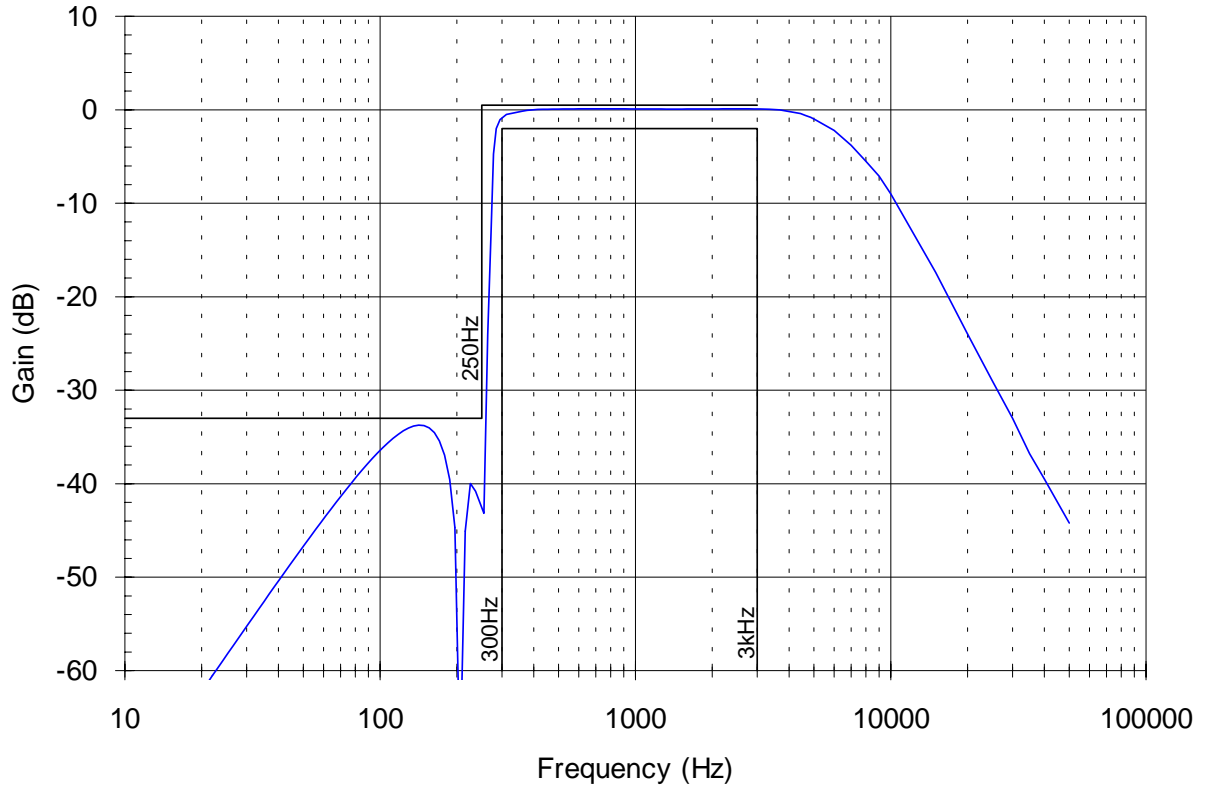

Figure 3: Audio Band-Pass Filter Frequency Response
8. See filter response (Figure 3).